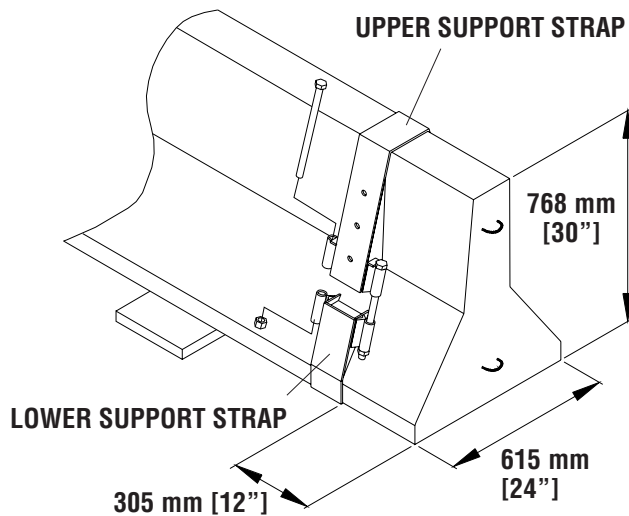

Figure 2
Step 2: Installing the Support Strap (see Figure 2)